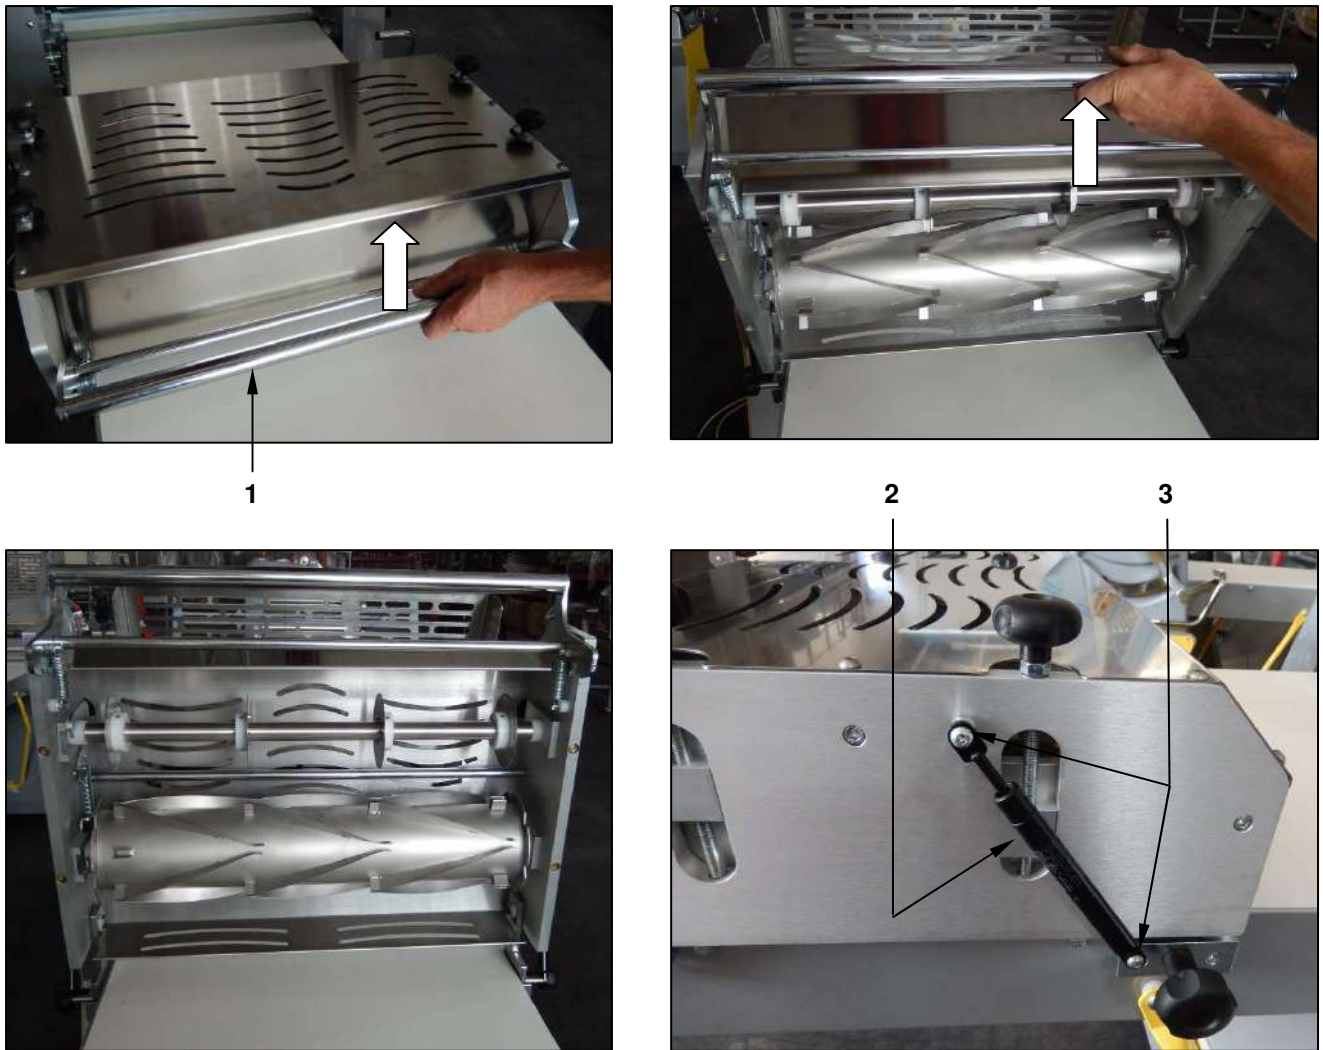

Figure 23 - Disabling the cutting unit
With reference to Figure 23, to use the machine as a sheeter whilst keeping the cutting unit mounted, simply release the cutting unit from the system that secures it to the table by lifting the release bar ref. 1 (to make this easier, push the unit down with one hand).